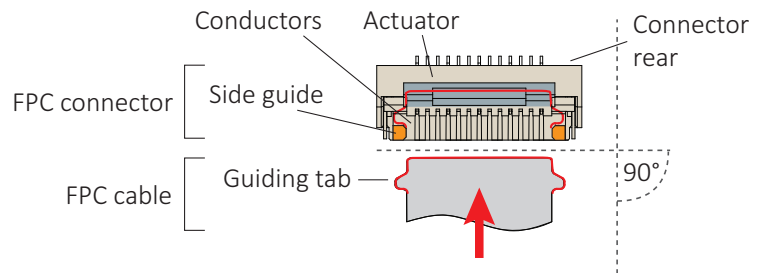
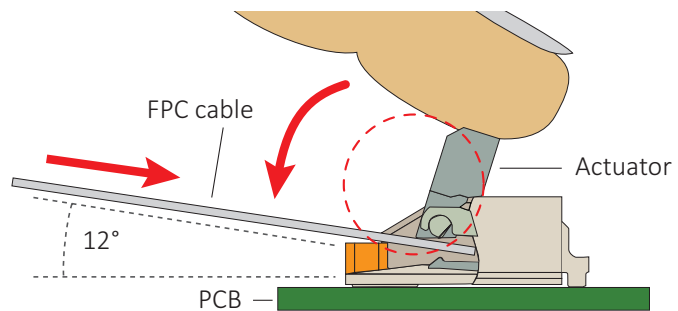

Figure 15: FPC cable and FPC connector
Figure 16: Engaging the FPC cable in the FPC connector
2. **Ensuring proper cable orientation between devices to be connected**, take the FPC cable with conductors facing the FPC connector conductors (see Figure 15 on page 40).
At a horizontal angle of  $90^\circ$  to the connector's rear (see Figure 15) and at a vertical angle of  $12^\circ$  to the PCB (see Figure 16), slowly insert the FPC cable into the actuator...
4. ...until cable guiding tabs are caught between connector rear and side guides (see Figure 15). Pull the cable slightly to ensure guiding tabs are properly engaged.
5. Holding the FPC cable in position, flap down the actuator to closed position (see Figure 16).